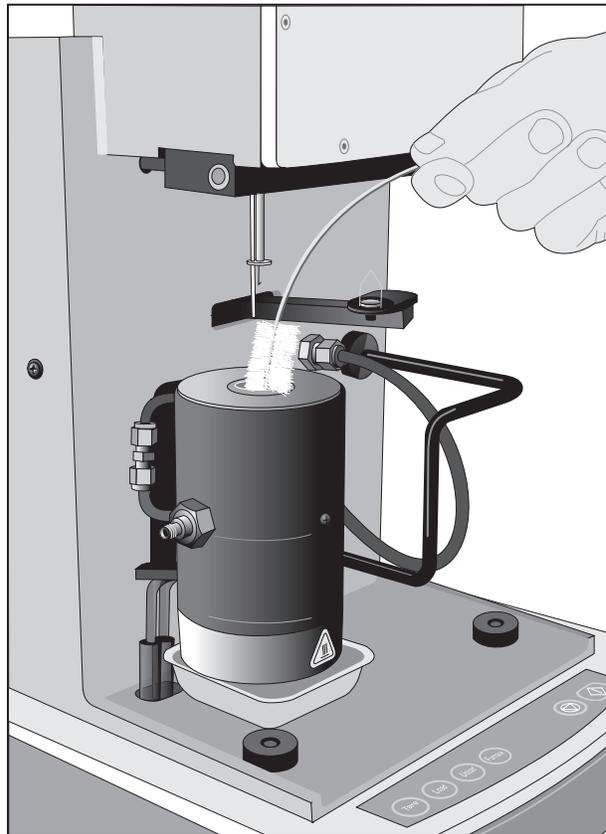

Figure 5.1
6. Using a soft bristle brush (we recommend a flexible bottle brush), gently slide the brush up and down to clean out the inside of the furnace tube, allowing the handle to bend freely (see Figure 5.1 on the next page).